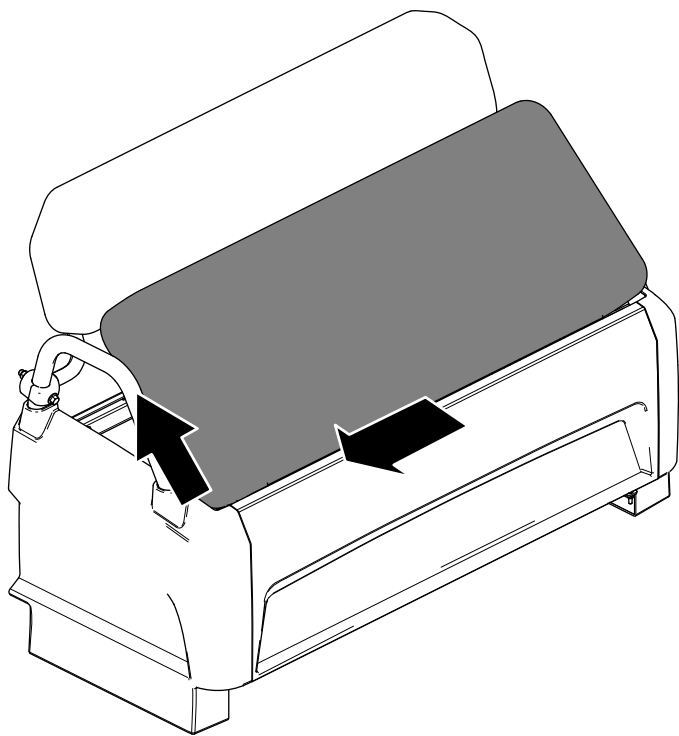

Figure 29
2. Slide the cushion to the side, out of the pins, and lift the cushion upward (Figure 29).